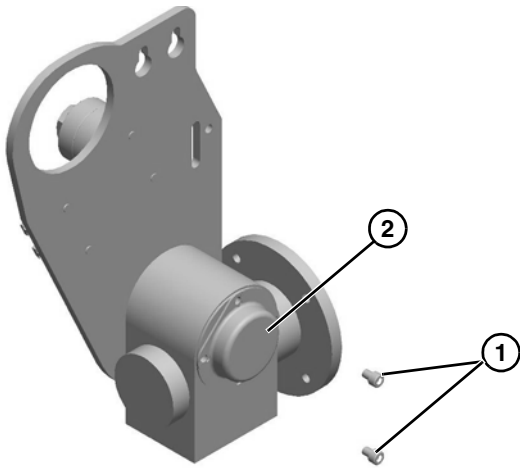

Figure 32
6. Remove two screws (**Figure 32, item 1**) and detach output shaft cover (**Figure 32, item 2**).